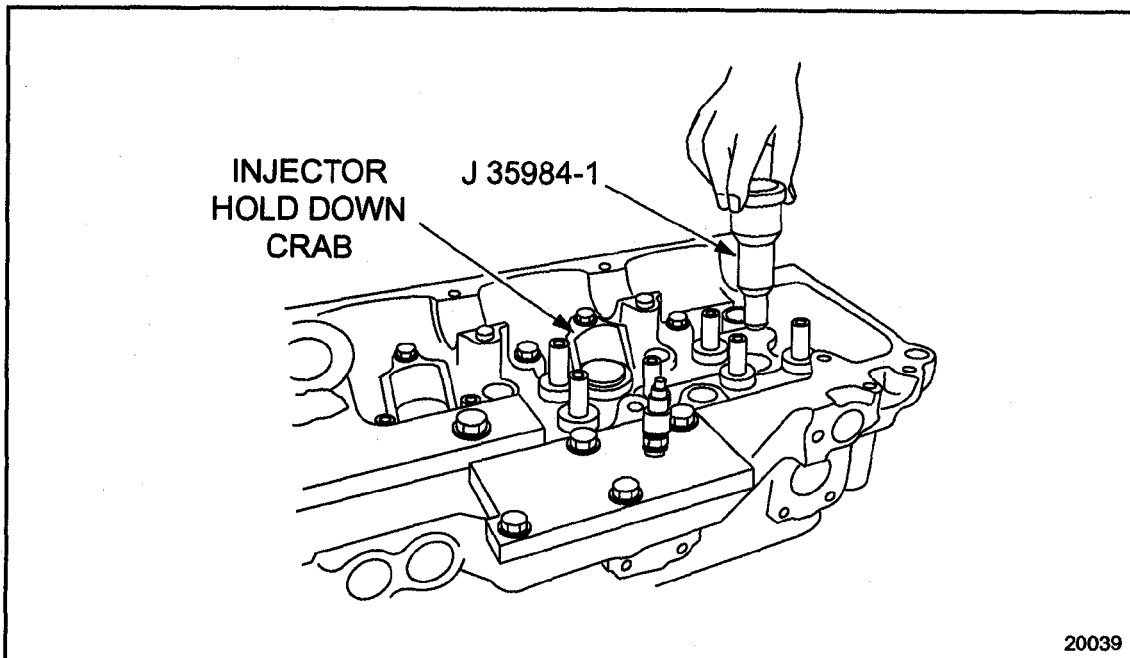

Figure 1-40 Dummy Fuel Injector Installation
4. Install dummy fuel injectors, to the injector bores to assure proper seating of the fuel injector tubes. See Figure 1-40.
5. Install the fuel injector crabs and hold-down bolts. Torque the bolts to 58-66 N·m (43-49 lb·ft). See Figure 1-40.